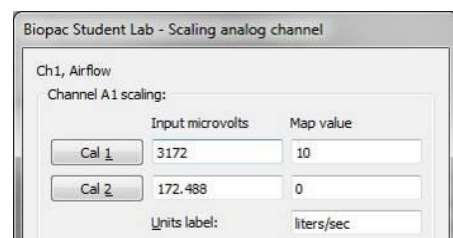

Figure 6
3. Add 3000+ to the Cal 2 Input value and manually enter this as the new Input value for Cal 1. In the Figure 6 example, after clicking Cal 2, the Input reading is 172 microvolts (rounded). This value is added to 3000 microvolts and then entered as the new value (3172) for Cal 1 Input.